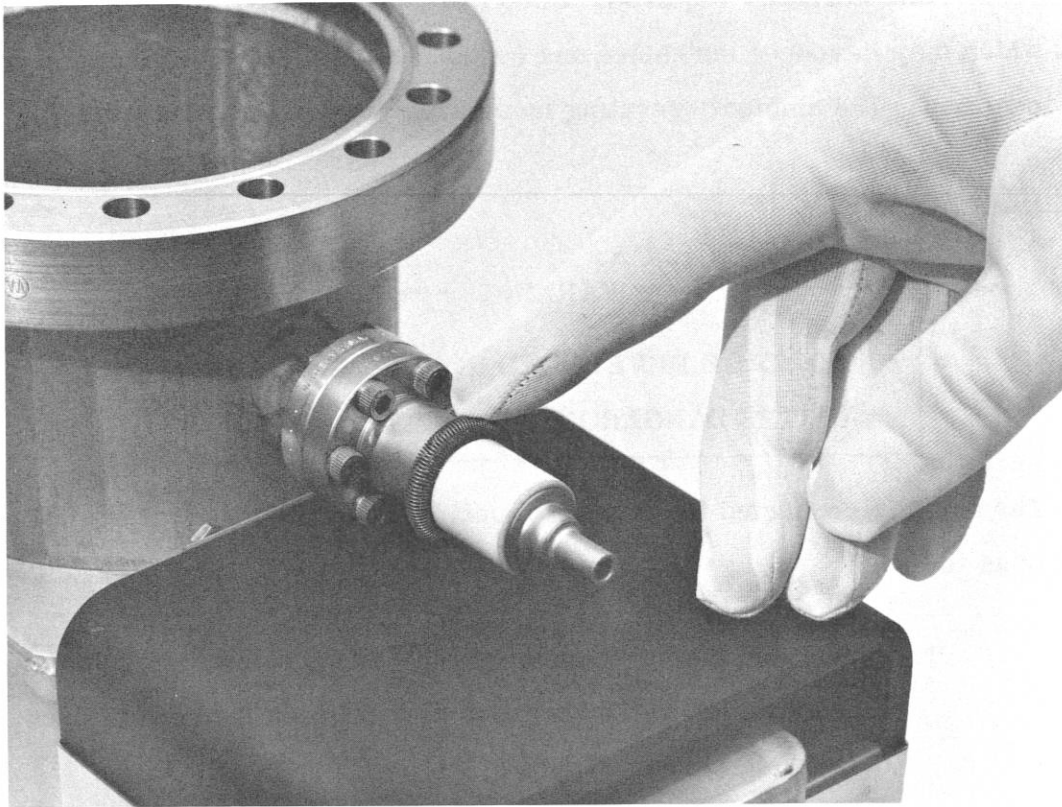

Figure 3. Grounding Spring Installation
1. Position the "grounding spring" on the pump high voltage feedthrough in the recessed part between the ceramic and the weld sleeve (Figure 3).